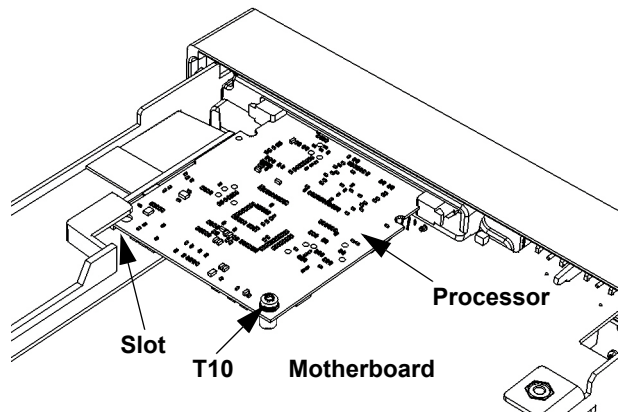

Figure 3-6. Processor PC Board
- 2 Turn the chassis upside down. On the bottom of the motherboard, remove the T10 TORX screw that secures the smaller Processor printed circuit board to the motherboard (see Figure 3-6).
- 7 Turn the chassis upside down. Remove the smaller Processor board from the motherboard as described previously (see Figure 3-6).